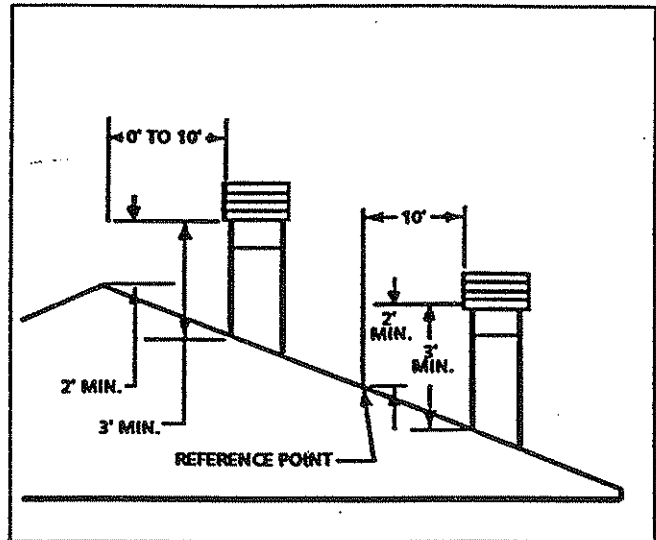

FIGURE 17
WARNING: Major U.S. building codes specify minimum chimney and/or vent height above the roof top. These minimum heights are necessary in the interest of safety. These specifications are summarized in the ten foot rule. (See Figure 17.)
2. If a horizontal distance from the edge of the vent or chimney to the peak of the roof is more than 10 feet, a vent or chimney height reference point is established that is on the surface of the roof a distance of 10 feet from the edge of the vent or chimney in a horizontal plane. (See Figure 17.) The bottom of the vent cap must be at least 2 feet above this reference point, but never less than 3 feet in height above the highest point where it passes through the roof.